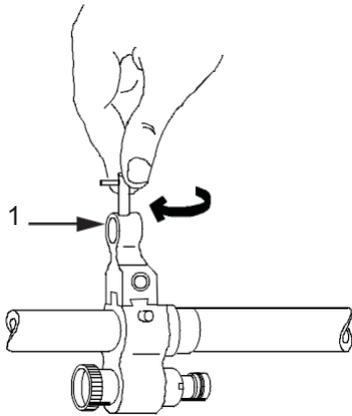

Figure 24. Raise Impact Group Sight Post.
13. To raise the impact group, screw the front sight post (Figure 24, Item 1) down clockwise (CW).